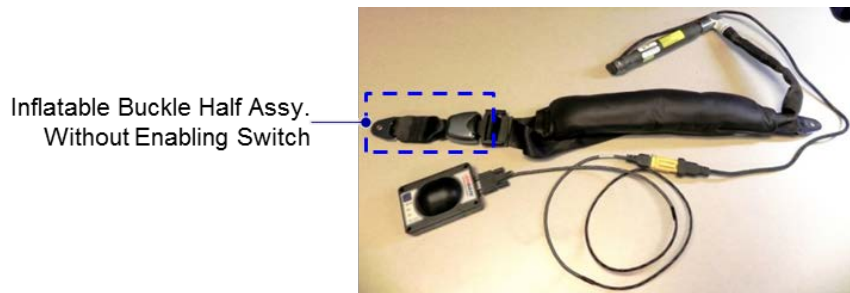

Figure 6 – Inflatable Buckle Half Assembly Without an Enabling Switch
- If a connector subassembly (Figure 6) is not attached to the inflatable buckle half assembly, the system does not have an enabling switch.